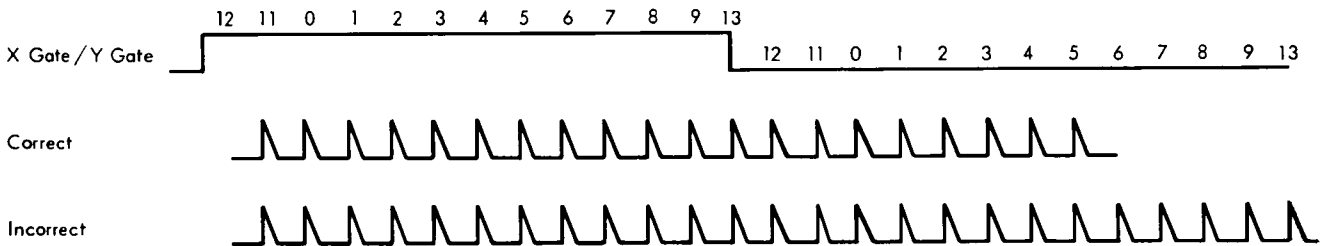

Figure 83. X- and Y-Gate Timing
3. While punching the same data in each card (5's), observe the regen lines (Figure 83).